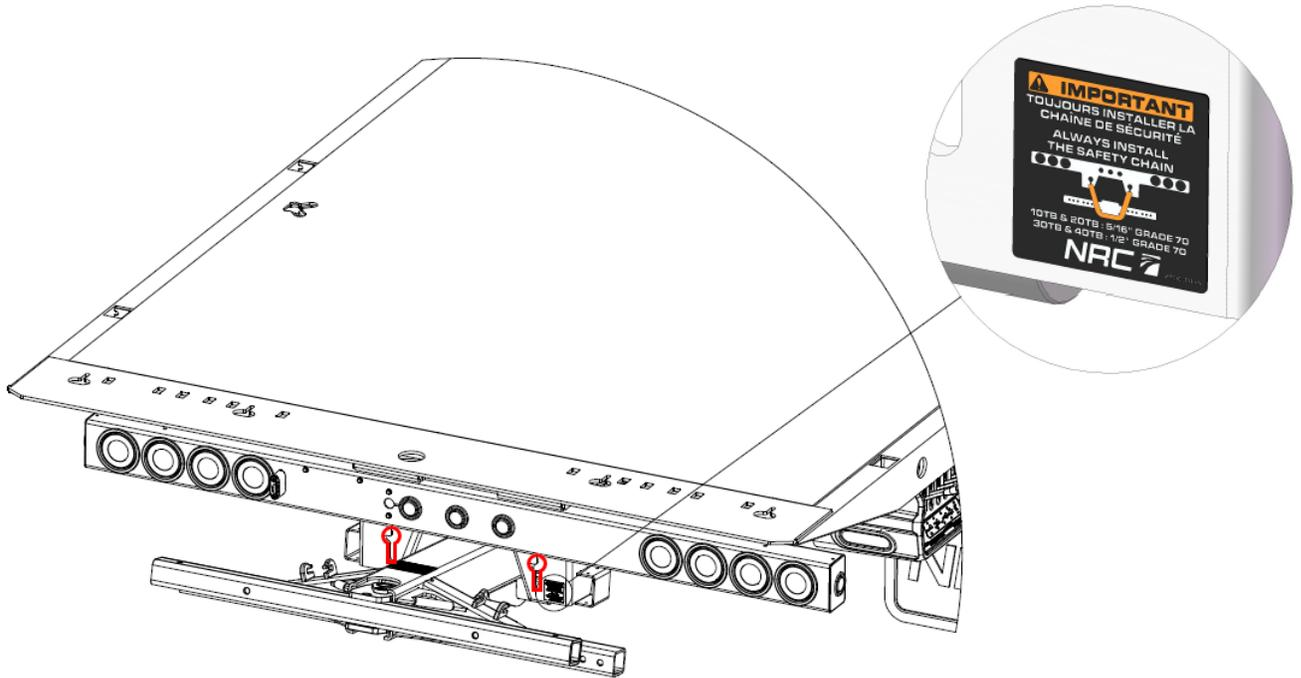

FIGURE 44 – SECURING THE WHEEL LIFT CHAIN
- For additional safety in the event of a hydraulic failure, install the wheel lift chain. Attach one end of the wheel lift chain to one of the anchor slots. Route the chain underneath the wheel lift and attach the other end to the other slot (see Figure 44). The chain should form a U-shape beneath the wheel lift, with both ends secured to the anchor slots.